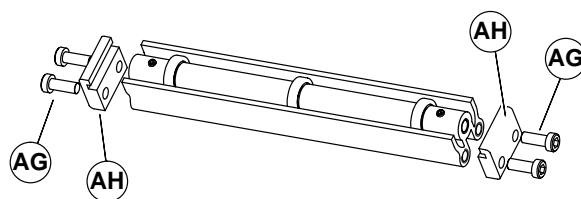

Figure 15
1. Locate return rollers. Exploded view shown in Figure 15.
2. Remove screws (AG of Figure 15) and clips (AH) from roller assembly.